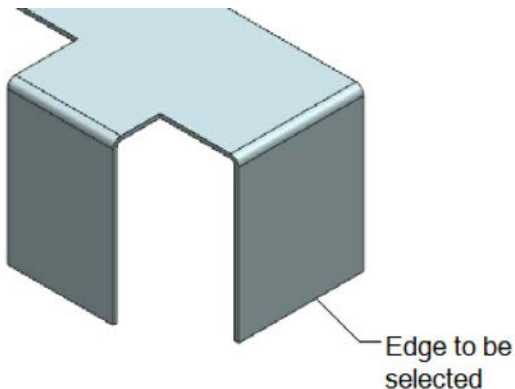

Figure 14-108 Edge to be selected
5. Select the bottom edge of the second flange, refer to Figure 14-108.